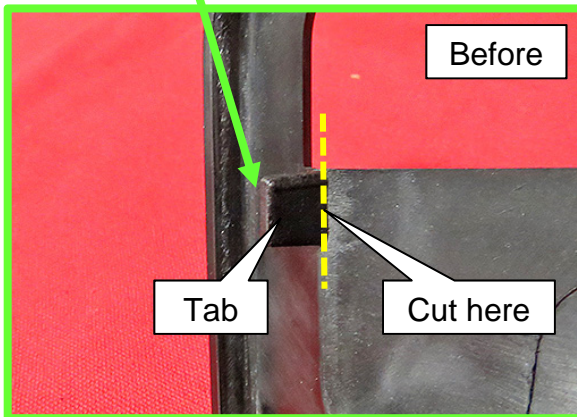
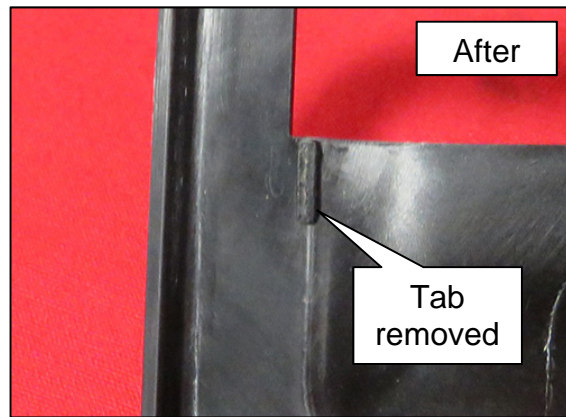

Figure 3
Figure 4
4. Remove the tab shown in Figure 3, as shown in Figure 4, from the COVER-AIR INTAKE (see the **PARTS INFORMATION** on page 7).